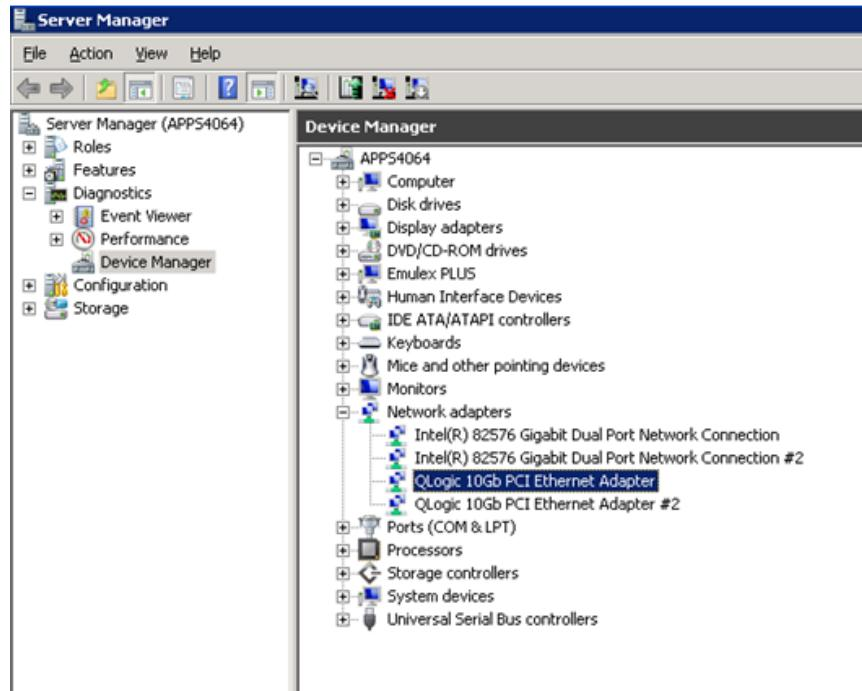

Figure 6-1. Accessing Device Manager
1. Click **Start**, right-click **My Computer**, and then click **Device Manager** to display a list of devices, as shown in Figure 6-1.